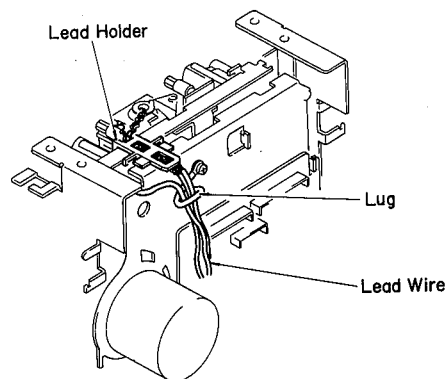

Fig. 5
- Loosen 2 screws (7) Fig. 5 and remove the lead holder.